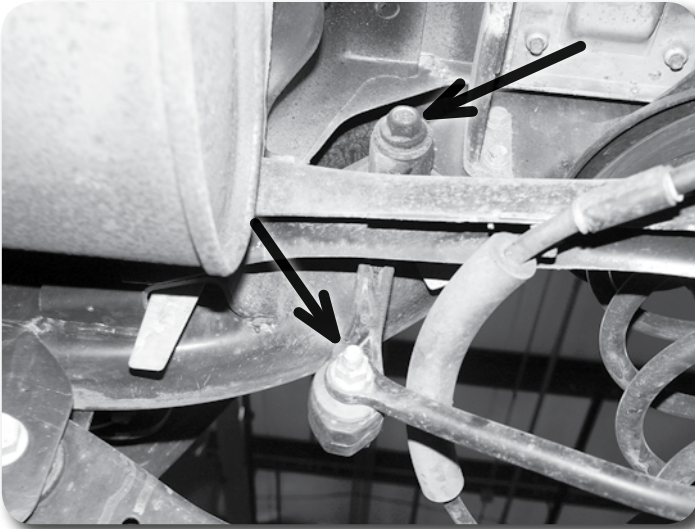

Figure 10
5. Disconnect the sway bar links from the sway bar and frame **Figure 10**. Save hardware.